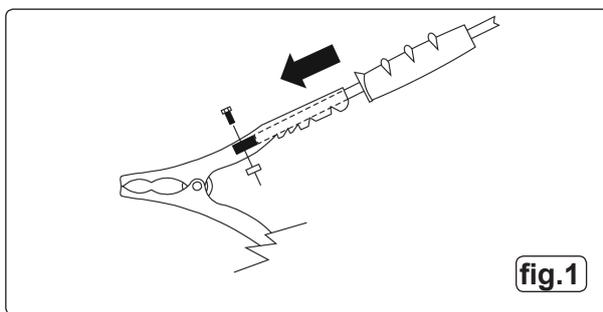

fig.1
- 3.2 BATTERY CLAMPS.** (See fig.1)